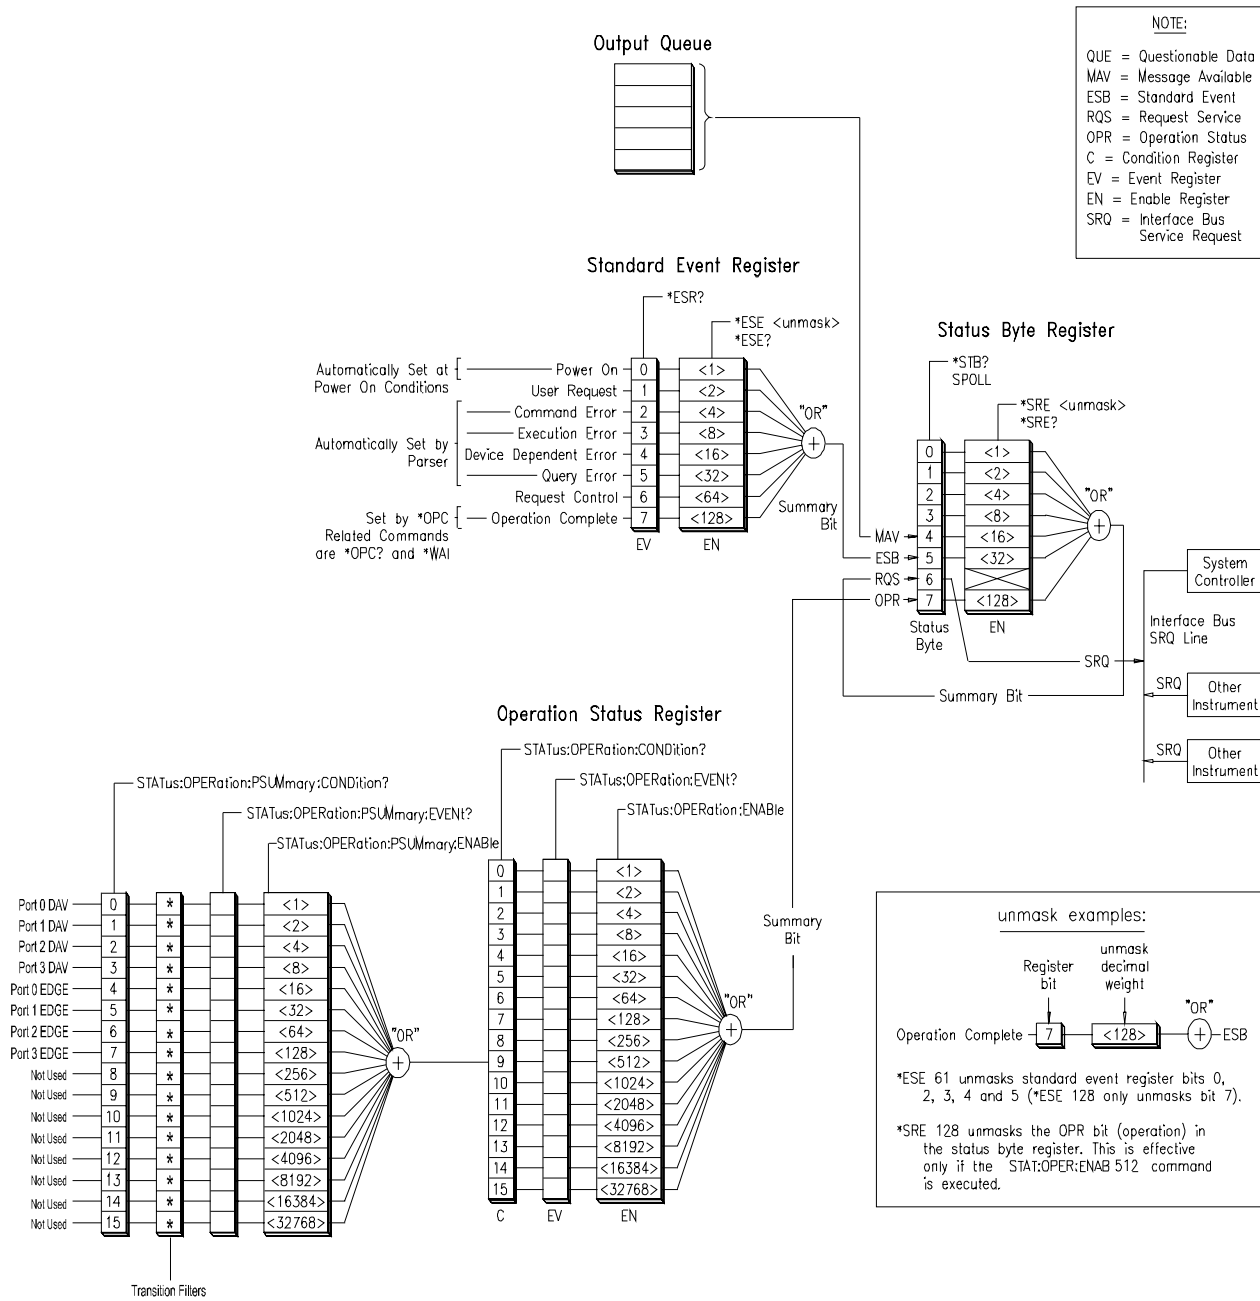

Figure 3-1. Agilent E1459A Status System Register Diagram
The STATus system contains five registers, two of which are under IEEE 488.2 control: the Event Status Register (*ESE?) and the Status Byte Register (*STB?). The Operational Status bit (OPR), Service Request bit (RQS), Event Summary bit (ESB), Message Available bit (MAV) and Questionable Data bit (QUE) in the Status Byte Register (bits 7, 6, 5, 4 and 3 respectively) can be queried with the *STB? command. Use the *ESE? command to query the *unmask* value for the Event Status Register (the bits you want logically "OR'd" into the Summary bit). The registers are queried using decimal weighted bit values. The decimal equivalents for bits 0 through 15 are included in Figure 3-1.
- <mask> determines which OPERation Status conditions are summed. See Figure 3-1. The events detected in the Port Summary Status Register are reported in bit 9 of the Operation Status Register which in turn is reported in bit 7 of the Status Byte Register.
- The only defined bit is bit 9 which is the summary of the Data Available and Edge Status for Ports 0, 1, 2, and 3. See Figure 3-1.
- Bits 0 through 3 reflect Data Available on Ports 0 through 3 respectively; bits 4 through 7 reflect edge events on Ports 0 through 3 respectively. See Figure 3-1.
- This mask determines which Operation Status Port Summary Events are summed and reported in bit 9 of the Operation Status Register. Bits 0 through 3 reflect Data Available on Ports 0 through 3 respectively; bits 4 through 7 reflect edge events on Ports 0 through 3 respectively. See Figure 3-1.